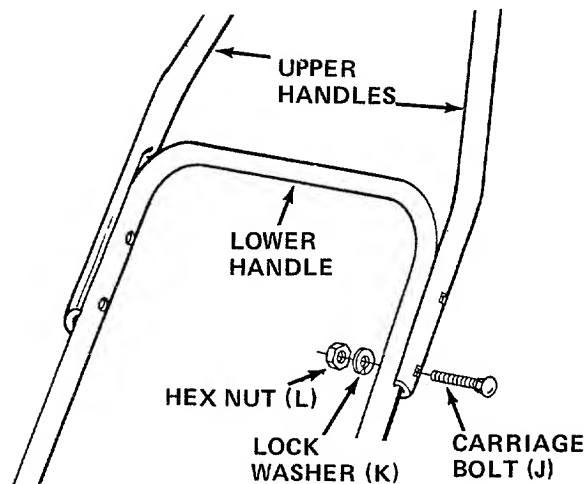

FIGURE 6
6. Slip the three handle grips (T) on the upper handles and the engagement handle. They will slip on more easily if you first soak them in warm, soapy water.
7. Assemble the two upper handles to the lower handle with four carriage bolts (J), lock washers (K) and hex nuts (L). Tighten only finger tight at this time. See figure 6.